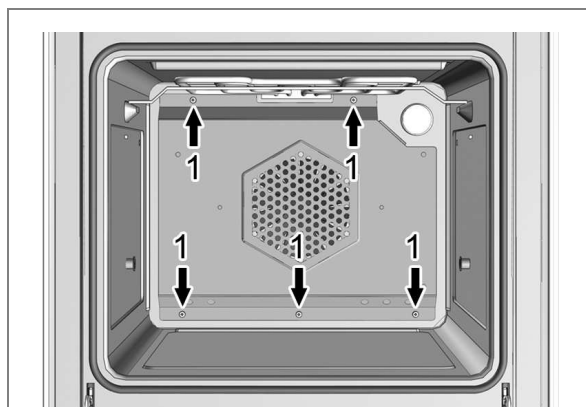

Figure 28
To remove the wall, loosen 5 fixing screws (1) (Figure 28) After the cleaning, fit the rear wall back and fix it with 5 screws (1).